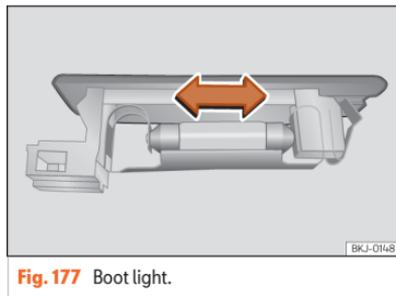

Fig. 177 Boot light.
- Press the bulb sideways and remove it from its housing »» Fig. 177.